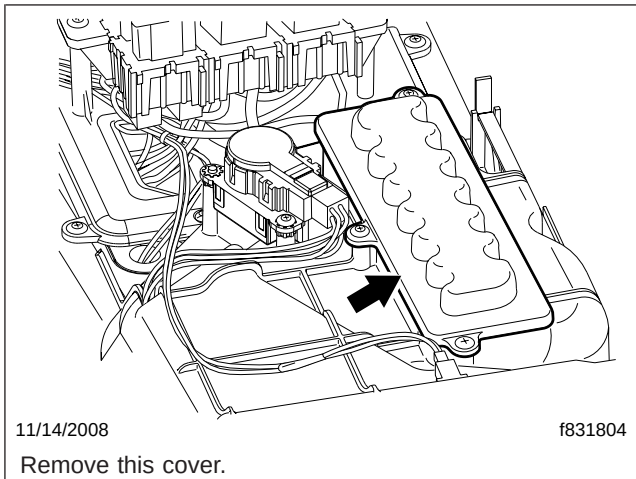

Fig. 3, Heater Core Cover (pre-July 2011 shown)
8. Remove the heater core cover, then remove the heater core. See Fig. 3.